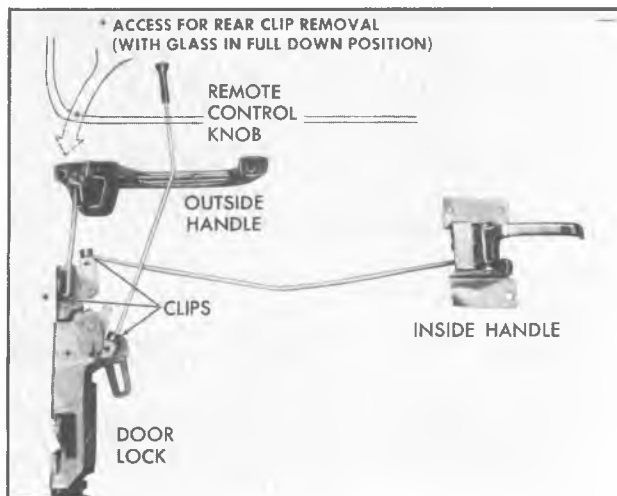

Fig. 32—Lock, Handles and Rods
The door lock, handles and control rods are shown in figure 32 as they would be installed in the vehicle. Note the clips which attach the three control rods to the lock assembly.
6. Remove clip from outside handle rod-to-lock. This is best accomplished by inserting a long screwdriver through the daylight opening, as shown in figure 32.
5. Remove clip from outside handle rod-to-lock. This is best accomplished by inserting a long screwdriver through the daylight opening, as shown in figure 32.